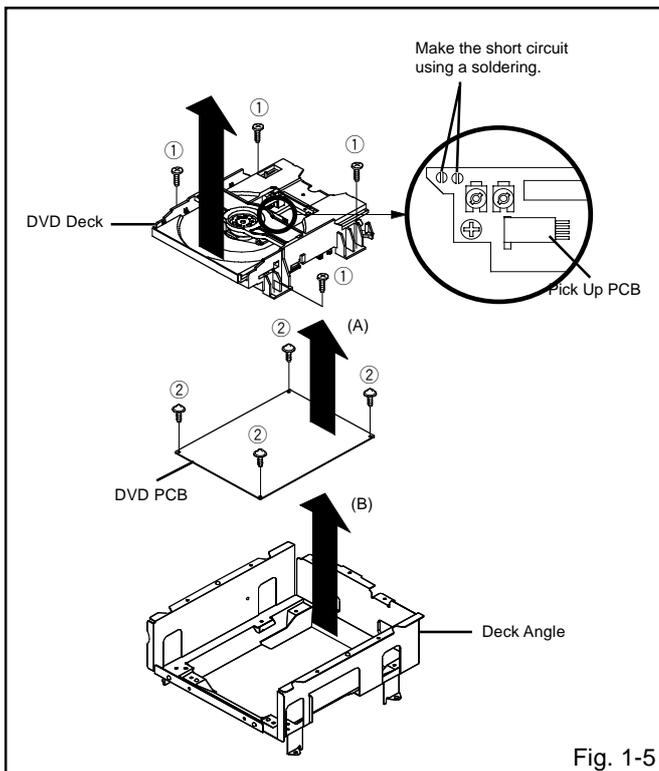

Fig. 1-5
1-5: DVD PCB/DVD DECK (Refer to Fig. 1-5)
1. Make the short circuit on the position as shown Fig. 1-5 using a soldering. If you remove the DVD Deck with no soldering, the Laser may be damaged.